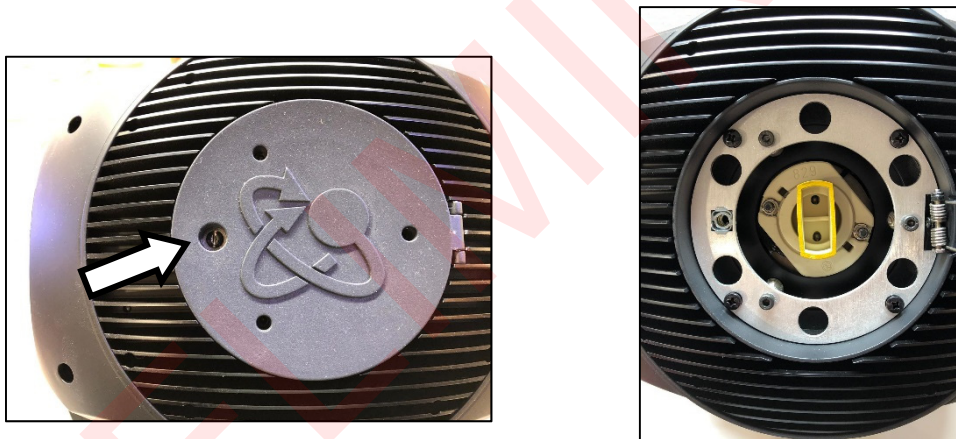

Figure 6. Opening the lamp compartment
3. See Figure 6. Tilt the head so that you have access to the lamp door on the back of the head with the top of the head facing upwards: the lamp door screw (arrowed) must be on the on the left-hand side when you look at the back of the head. The door opens to the right. To make it easier to work we recommend that you apply the tilt lock.
4. Release the lamp door screw (arrowed in Figure 6) and open the lamp door. You can now see the lamp base in the lampholder.
7. Close the lamp door and fasten it with its locking screw (arrowed in Figure 6).